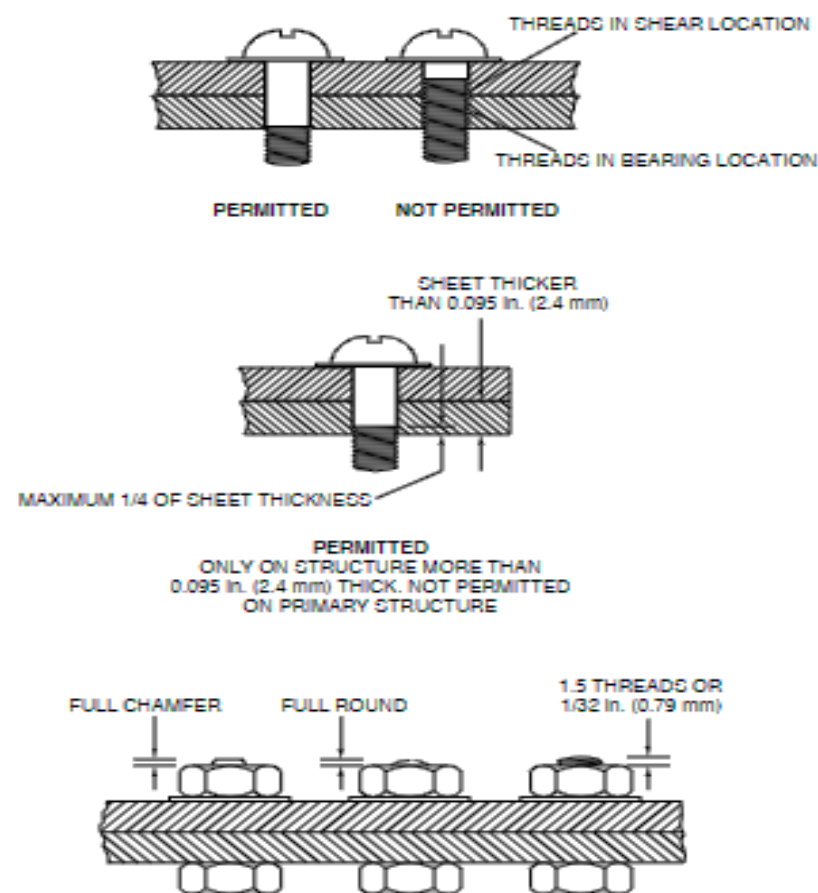

Figure 20-02: Installation of Bolts and Screws
Refer figure 20-02: Installation of Bolts and Screws
- (5) Install the bolts and screws at 90 degrees to the mating surfaces. Washers and nuts must have a flat fit with the mating surfaces.
- (6) It is usually not permitted to have the threads of a fastener in a bearing or shear location (Refer figure 20-02). It is permitted to have a maximum of two threads in a bearing position in the conditions that follow:
- (7) If necessary, you can use a fastener with a different grip length than the